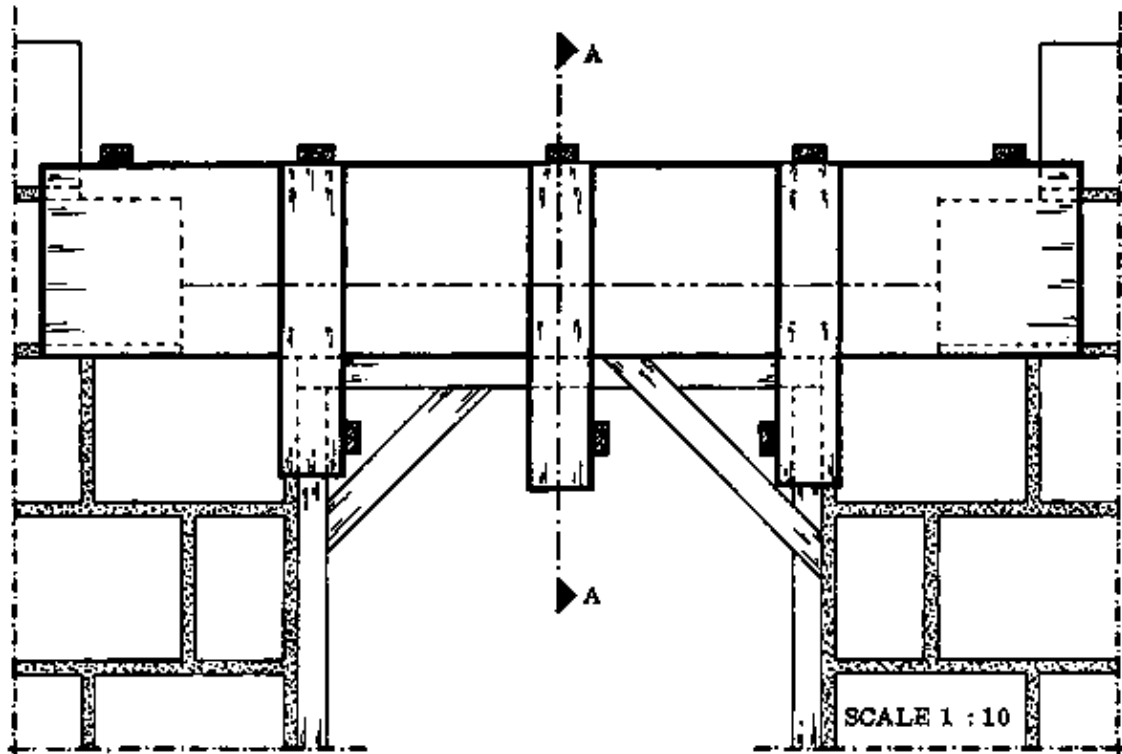

Fig. 1
– CONSTRUCTION: The construction of the formwork is shown in Fig. 1, page 167 of the Basic Knowledge book. This illustrates a situation where the frame will be set later or where there is an opening without a frame.
Since in most cases the frames are set already, the formwork does not require special strutting (Fig. 1). The head of the frame then acts as part of the soffit of the shuttering. The side boards must be fixed so that the vertical sides of the concrete lintel will be flush to the surface of the blockwork (Fig. 2).